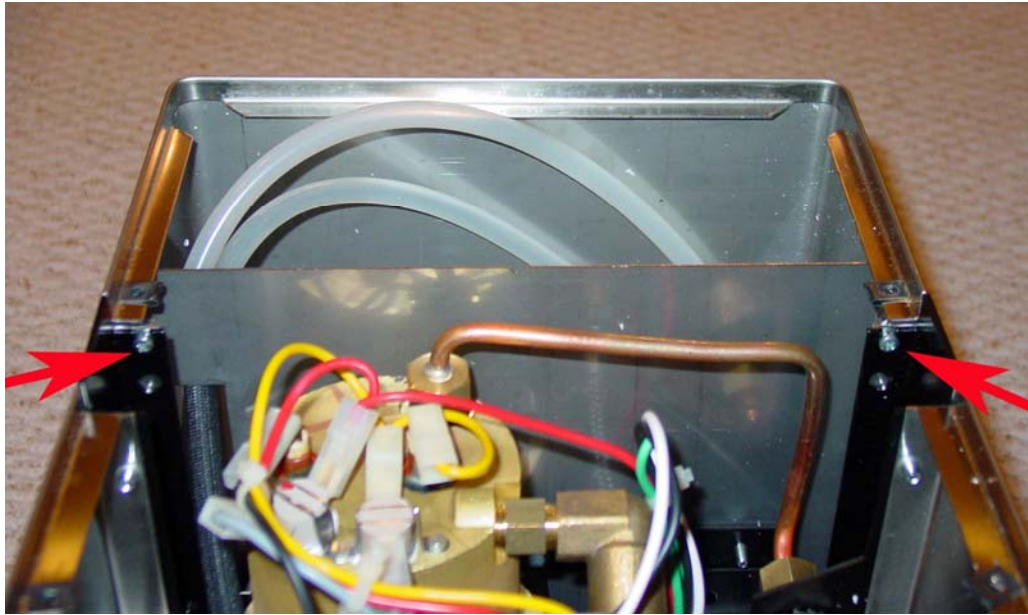
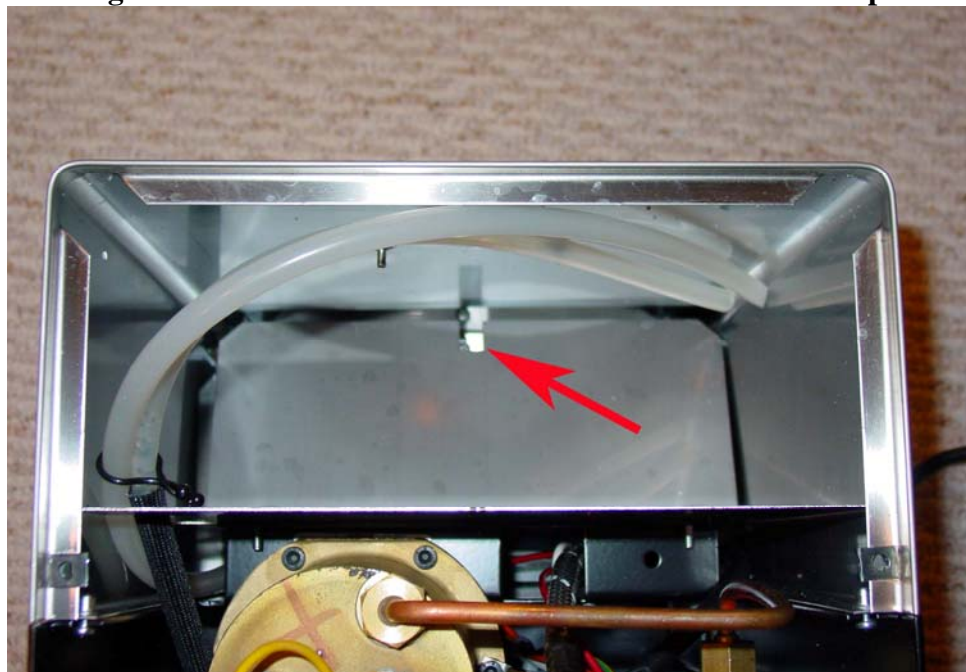

Figure 14a. Red arrow indicates the screw that hold back panel.
Figure 14b. The screw on the bottom of machine that holds the back panel (Red arrow).
- 1) Remove the back panel of the machine after removing the two screws indicated in Figure 14a. Loosen the screw indicated in Figure 14b by several turns (do not remove it). The back panel can be removed by sliding it back and lifting up.